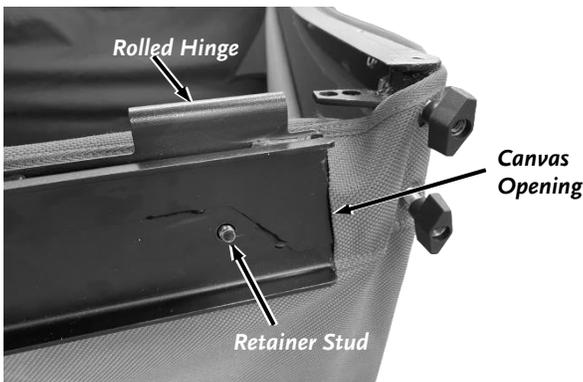

Figure 44
2. Next, slip the Split Hinge Assembly through the canvas opening in the front corner, making sure the rolled hinges are oriented up and the Retainer Studs pass through the holes in the hinge (**Figure 44**).